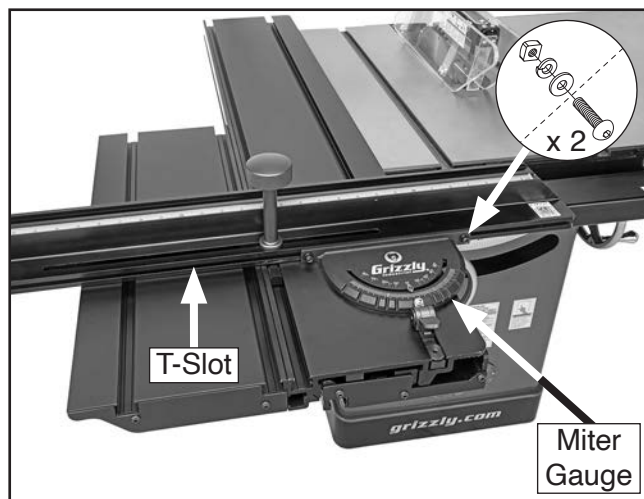

Figure 18. Fence attached to miter gauge.
37. Insert (2) M6-1 square nuts (see **Figure 18**) into T-slot at front of fence and align with (2) mounting holes in miter gauge.
38. Move fence backward until it rests firmly against miter gauge (see **Figure 18**), then thread (2) M6-1 x 16 button head cap screws, 6mm lock washers, and 6mm flat washers into (2) square nuts installed in **Step 37**. Do not tighten. Fence must still be able to move side to side.